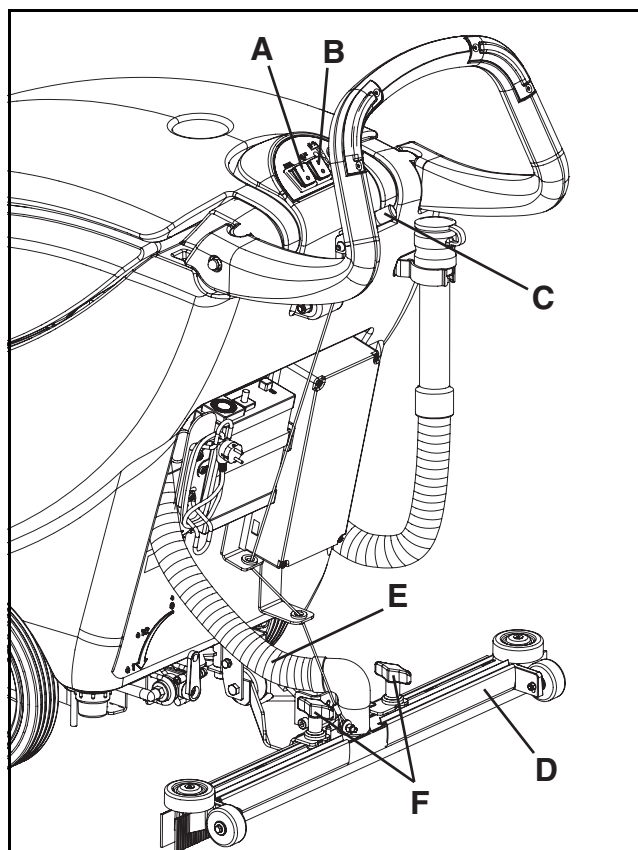

Figure 24
1. Make sure that the switches (A and B, Fig. 24) are in the "0" position.
2. Lower the squeegee (D, Fig. 24) by means of the lever (C).
3. Disconnect the vacuum hose (E, Fig. 24) from the squeegee.
4. Loosen the squeegee knobs (F, Fig. 24) and remove the squeegee (D).
4. Reinstall the squeegee (D, Fig. 24) and screw down the squeegee knobs (F).
5. Connect the vacuum hose (E, Fig. 24) to the squeegee (D).